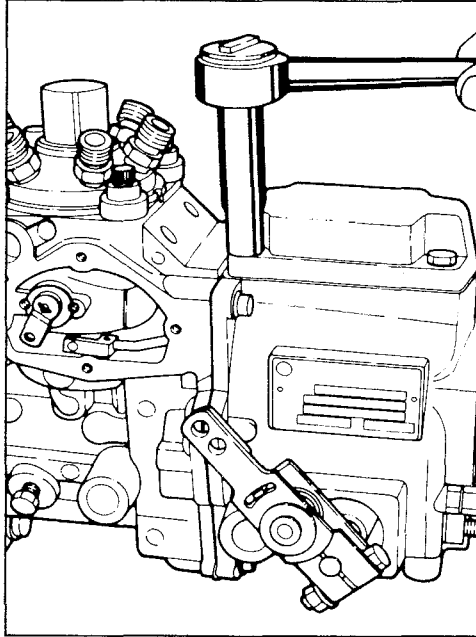

FIGURE 2-217
- (34) Install governor cover screws with the new gaskets and tighten the screws finger tight to insure that no dirt enters governor. (Refer to figure 2-217). The screw with lockwire hole should be installed in cover closest to control unit. Then, tighten screws as specified in Torque Chart, Section XI.